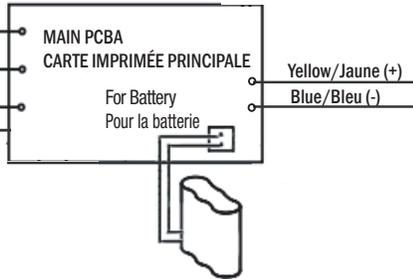

Fig. 3
4. Make proper wiring connections into the junction box between the AC supply and the unit's transformer: RED - Line 347 Volts; BLACK - Line 120 Volts; ORANGE - 277 V, WHITE - Neutral (Fig. 3). Insulate unused wire!
ROUGE - ligne de 347 volts; NOIR - ligne de 120 volts; ORANGE - ligne de 277 volts, BLANC - neutre (Fig. 3). Isoler le fil non utilisé!